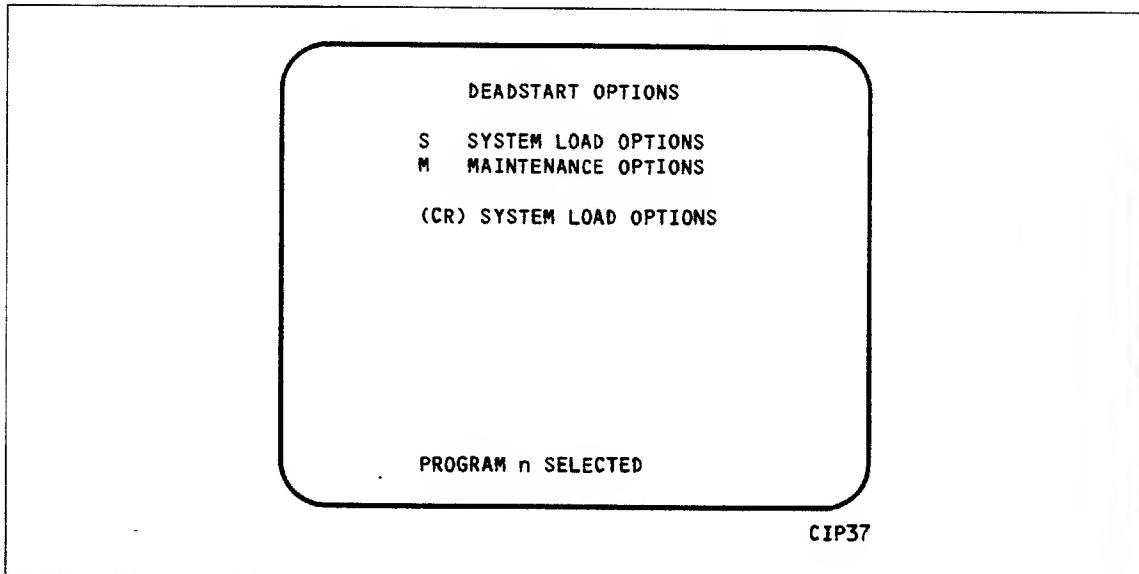

Figure 3-1. Deadstart Options Display (Single IOU Systems)
- 1. When either a CC634B console with option GK427A installed or a CC545 console has been initialized for use as the primary operator console, complete the following to bring up the DEADSTART OPTIONS display shown in figure 3-1.
- 2. When a CC634B without option GK427A installed has been initialized for use as the primary operator console, complete the following steps to bring up the DEADSTART OPTIONS shown in figure 3-1.
- 3. If the appropriate deadstart program is selected,¹ type S or press (CR); the INITIAL OPTIONS display appears. Proceed with step 5.
- 1. If you are deadstarting your OS from either a CC634B with option GK427A installed or from a CC545, perform the following steps to bring up the DEADSTART OPTIONS display shown in figure 3-1:
- 2. If you are deadstarting your OS from a CC634B without option GK427A installed, perform the following steps to bring up the DEADSTART OPTIONS display shown in figure 3-1:
- 3. From the DEADSTART OPTIONS display, type S or press (CR); the INITIAL OPTIONS display appears.
- 4. From the INITIAL OPTIONS display, press (CR) to select the default option, OS LOAD AUTOMATIC. This option assumes that the deadstart program is set correctly for deadstart level (0, 1, 2, 3) and for CMRDECK selection (NOS), or for CMR selection (NOS/BE), or for DCFILE selection (NOS/VE).